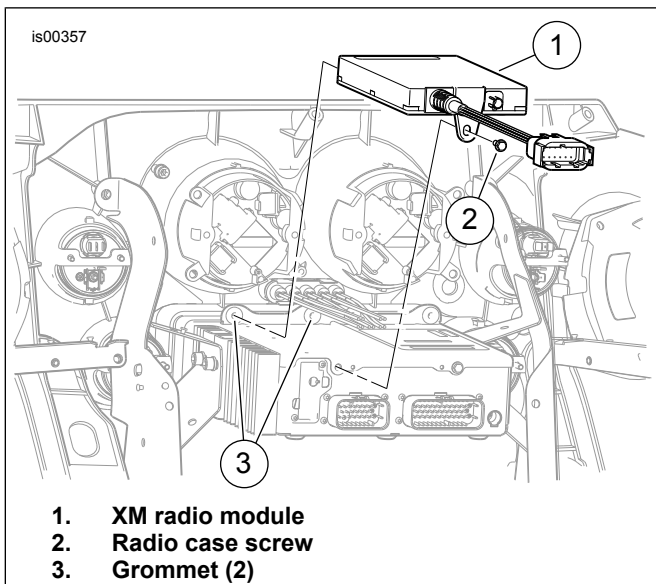
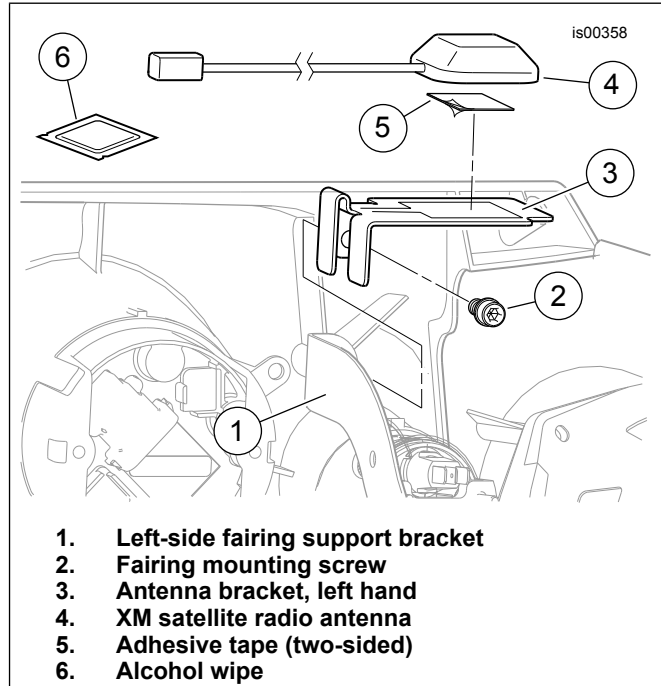
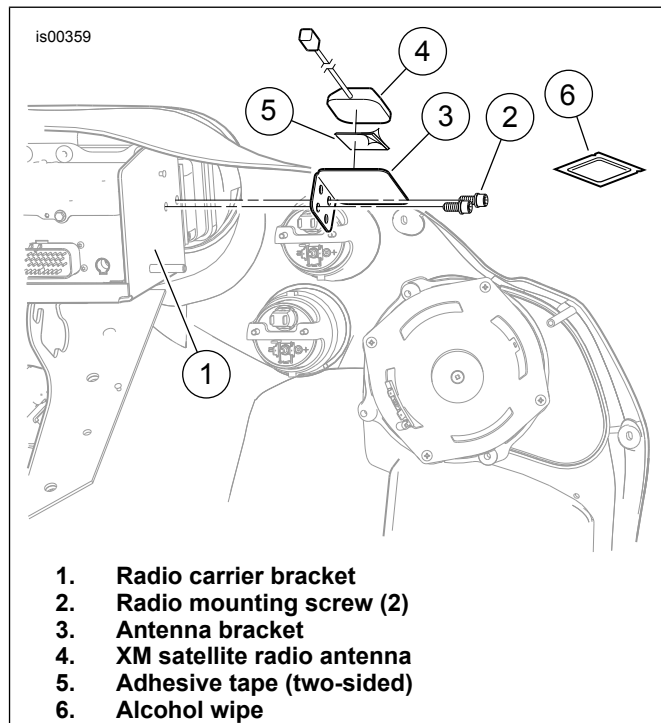

Figure 1. XM Radio Module Installation
Figure 2. XM Radio Antenna Mounting (FLH Models)
Figure 3. XM Radio Antenna Installation (FLT Models)
3. See Figure 1. Locate the XM radio module (1) on top of the AM-FM radio case:
- a. Remove the screw (2) at the back of the radio.
- b. Position the XM radio module on top of the AM-FM radio, with the metal cones on one end of the module fitting firmly into the leftmost rubber grommets (3) at the front of the radio.
- c. Fasten the module to the radio with the radio case screw (2). Tighten to 35-45 **in-lbs** (4.0-5.1 Nm).
4. Obtain the antenna bracket (purchased separately). **FLH models:** See Figure 2. Remove the fairing mounting screw (2) at the top of the left-side fairing support bracket (1). Clip the antenna bracket (3) over the top edge of the support bracket, and fasten the antenna bracket through the support bracket to the inner fairing with the screw removed earlier. Tighten to 20-30 **in-lbs** (2.3-3.4 Nm). **FLT models:** See Figure 3. Remove the left-side radio mounting screws (2). Position the antenna bracket (3) to the side of the radio carrier bracket (1) with the top plate horizontal, lining up two of the diagonal holes in the antenna bracket with the radio mounting holes. Fasten the antenna bracket through the radio carrier bracket to the radio with the screws removed earlier. Tighten to 35-45 **in-lbs** (4.0-5.1 Nm).
5. **All models:** Obtain the XM radio antenna (4), two-sided adhesive tape (5) and alcohol wipe (6) from the kit. Use the alcohol wipe to thoroughly clean the inscribed diagram area on the horizontal antenna mounting surface of the antenna bracket, and the bottom (mounting) surface of the antenna.